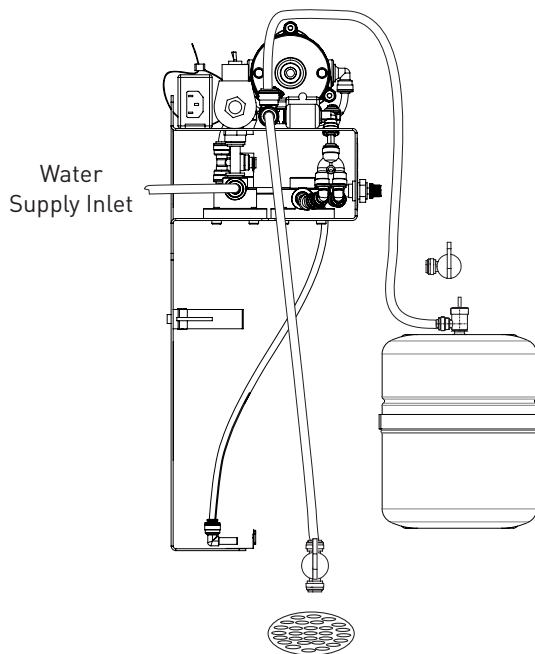

Figure 3
1. Refer to Figure 3 for a general description of connection points.
3. Locate an appropriate point in the hard water plumbing to tie in a new section of tubing/piping that can be routed to the RO processor. CLOSE the nearest shut-off valve that is upstream from the tie-in point and relieve the pressure in the line. Install a 3/8" (9.5 mm) tubing/piping section and connect it to the INLET - Supply Water fitting. See Figure 3.